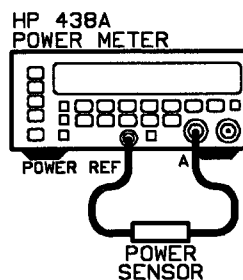

Figure 3-3. Front Panel Checks Setup (1)
4. Connect a power sensor with associated cable to channel A input as shown in Figure 3-3. The error message should disappear and display will show either a power level, or **PLEASE 0**, and Error 15. Annunciators **WATT A**, **100% CF**, and **A** on.